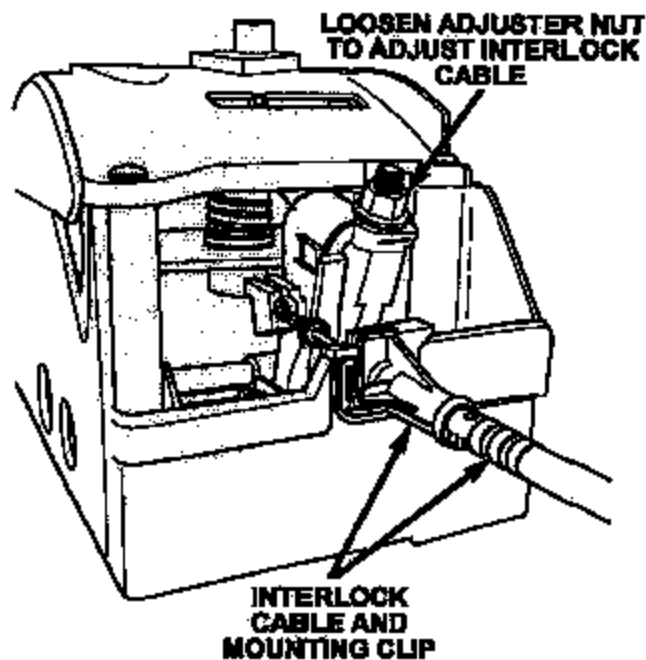

Figure 10 – Manual Adjusted Cable
- Loosen the adjustment nut located on the shifter housing (Figure 10).